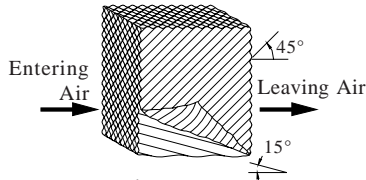

Fig. 6
**IMPORTANT:** In order to get the best performance from your cooling pads, they must be installed properly. If you have purchased a pad with two equal angles, the following instructions can be disregarded. Pads must always be installed with the steeper flute angle sloping down towards the air entering side (Fig. 6). The reason is simple. The steeper angle puts more water on the hot, dry, dirty side of the pad where it is needed most. It also counteracts the tendency of the air to push the water toward the back of the pad.